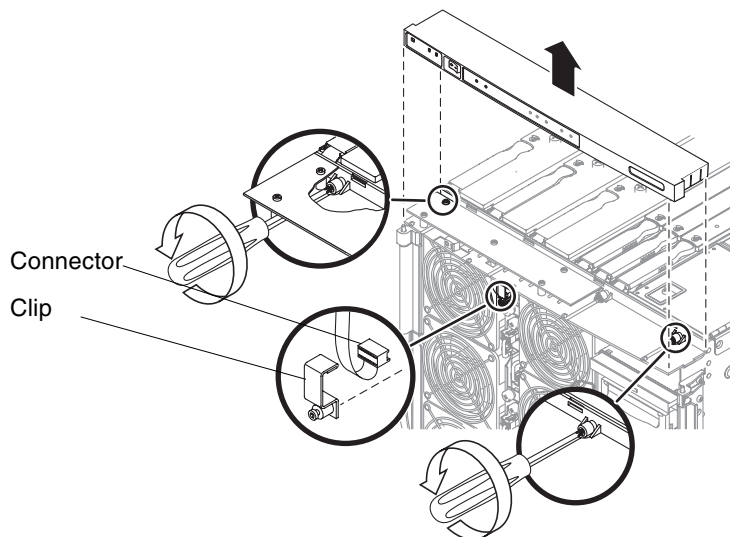

FIGURE 12-3 Removing the System Indicator Board Clip and Connector
10. Remove the clip on the fan tray retaining the system indicator board connector. Remove the connector (FIGURE 12-3).
11. Loosen the two captive screws securing the indicator board to the top of the chassis (FIGURE 12-3).
12. Remove the module and place it on an ESD mat (FIGURE 12-3).
2. **Secure the indicator board using the two captive screws (FIGURE 12-3).**
3. **Connect the indicator board connector to the receptacle at the top of the fan tray. Replace the retaining clip (FIGURE 12-3).**